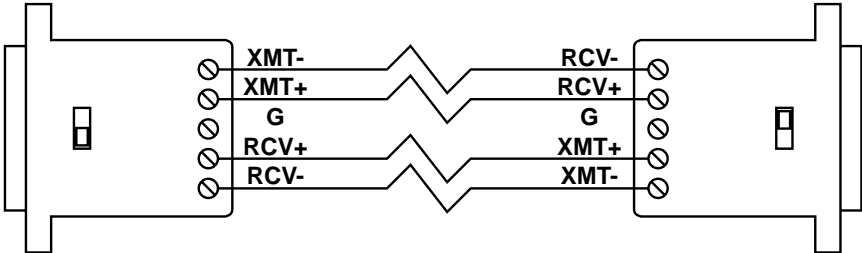
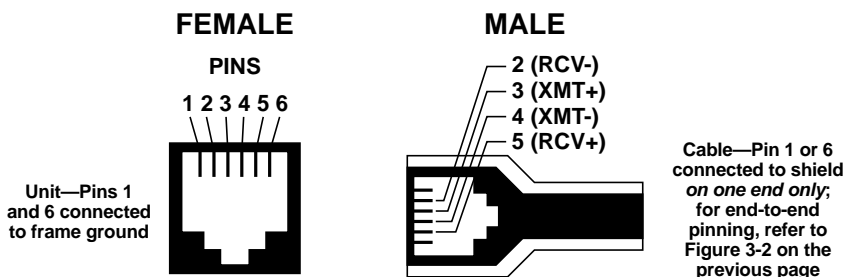

Figure 3-2. Wiring a pair of ME721 units.
Figure 3-3. Wiring a cable for ME821 units.
- 1A. *SHM-NPR (ME721 models) only*: Making sure that they are not connected to any other device or any power source, gently pry the units open using a small screwdriver or similar tool wedged into one of the indentations on either side of the units' cases. This will reveal a 5-screw terminal block mounted inside each unit. Run 4-wire twisted-pair cable (not included) from one block to the other as shown in Figure 3-2: one pair TX A to RX A and TX B to RX B, the other pair RX A to TX A and RX B to TX B, and the shield (if the cable is shielded) to the ground (middle) screw *on one end of the cable only*. When you are finished, lay the cable in the semicircle where it will emerge from the unit so that the strain-relief prongs can pierce the cable jacket, then close the unit back up.
- 1B. *SHM-NPR/RJ (ME821 models) only*: Get 4-wire twisted-pair cable and terminate it with RJ-11 or (especially if the cable is shielded) RJ-12 plugs, using the pin assignments shown in Figure 3-3 (for RJ-11 cable, substitute Pins 1, 2, 3, and 4 for Pins 2, 3, 4, and 5 respectively) and end-to-end wiring like that shown in Figure 3-2 on the previous page. Also, if the cable is shielded, attach the shield to Pin 1 or 6 *on one end of the cable only*. Plug the cable into the RJ-12 jacks on the units.